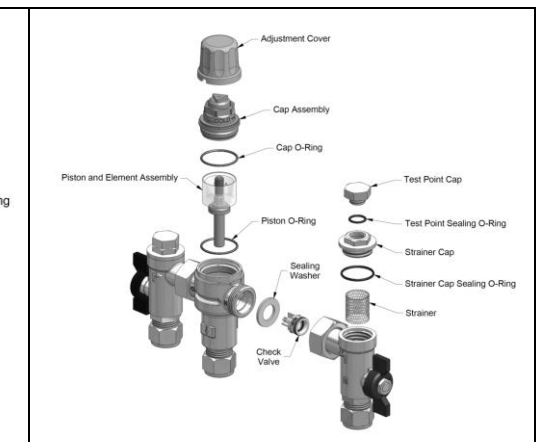

Figure 6 Exploded View
- Attach the supplied Integrated Inlet Fittings** to the valve using the sealing washer to provide a face seal (see figure 6 Exploded View). Tighten the inlet fitting nut to approximately 10Nm, excessive torque will damage the seal and is not required.